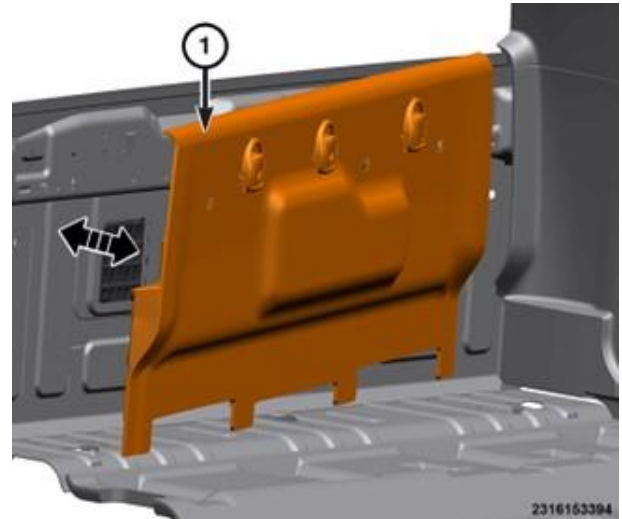

Figure 14 – Rear Cab Back Trim Panel
9. Remove the rear cab trim panel from vehicle (Figure 14).
17. Install the rear cab trim panel to the vehicle (Figure 14).